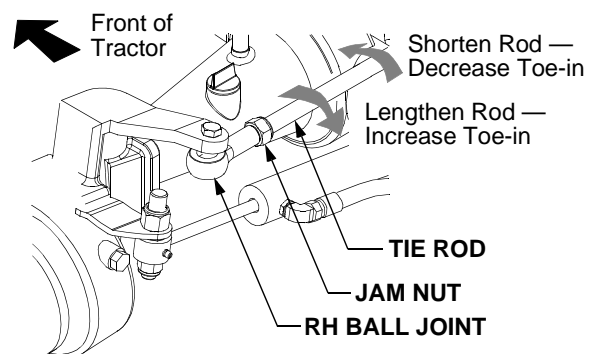

Figure 32
- Loosen the jam nuts at both the LH and RH ball joints. See Figure 32.
Forward to shorten the tie rod and decrease the toe-in. See Figure 32.
Rearward to lengthen the tie rod and increase the toe-in. See Figure 32.